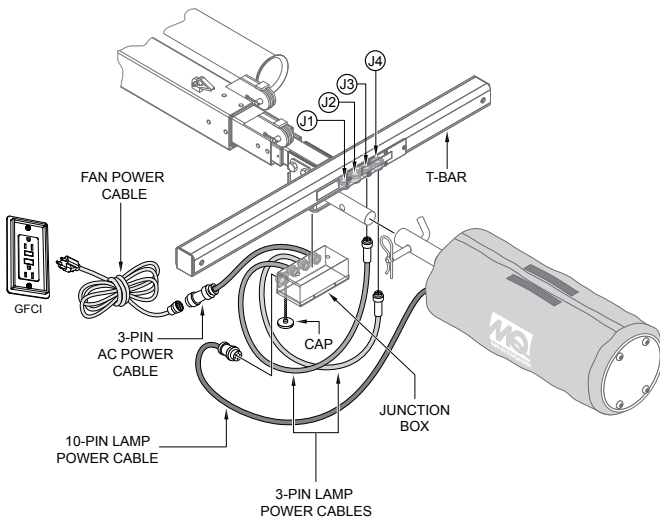

Figure 14. Junction Box Connections
- Connect the lamp power cord from the GB2000 lamp fixture to lamp power receptacle on the junction box as shown in Figure 14.
- Insert the 38 ft. (11.5 meters), 3-prong AC power plug on the fan power cable as shown in Figure 14 into the GFCI power receptacle on the generator.
- Connect the 10-pin lamp power cable from the balloon to the 10-pin lamp power receptacle on the junction box as shown in Figure 14.
- For LT12 series light towers connect the 2 lamp power cables (Figure 14) from the junction box to the J3 and J4 receptacles on the T-Bar as shown in Figure 14.
- For MLT series light towers connect the 2 lamp power cables from the junction box to the J3 and J4 receptacles on the T-Bar as shown in Figure 14.